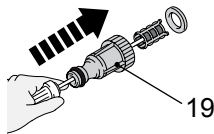

Fig. 29
1. Remove the water inlet hose connector (19) from the water inlet (14).
2. Use a damp tool to disassemble the water inlet hose connector (19) (Fig. 29).